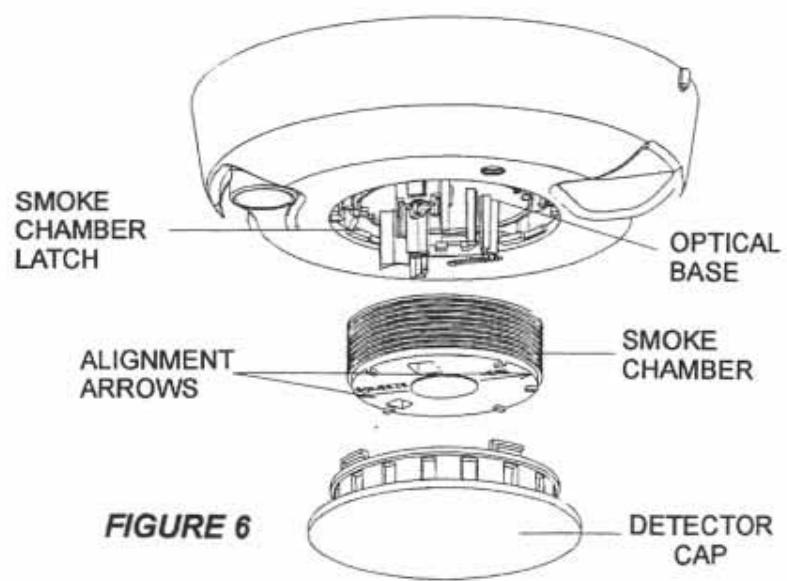

FIGURE 6
4. Squeeze the black smoke chamber where indicated by the arrows and pull it up and away from the detector and discard (see fig. 6).
6. Line the new smoke chamber up with the optical base by lining up the arrows on the smoke chamber to the latches on the optical base and snap down into place (see fig. 6).